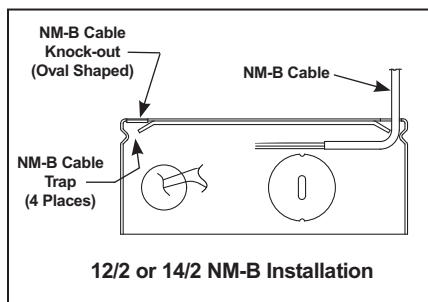

Figure 6
**12/2 or 14/2 Non-Metallic Sheathed Cable (Type NM-B).** Remove appropriate D-shaped cable knock-out(s). Insert the NM-B cable through the cable trap and make a 90° L-shaped bend in cable as shown (Fig. 6).